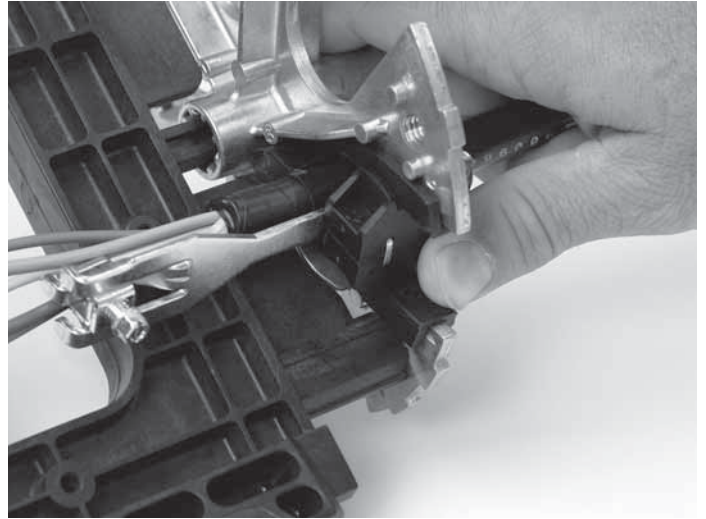

Figure 7
4. Slide cable attachment bracket and cable into the appropriate metal slot of the closure until it locks in place. (Figure 7)